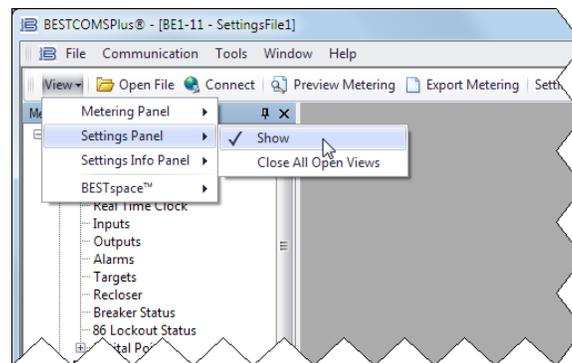

Figure 8. View Drop-Down Button
Click the View drop-down button to switch between the Settings Explorer and Metering Explorer or split the view between both. The Settings Info Panel displays settings ranges. A workspace can be opened, saved, or set as default. See Figure 8.
- Step 4: Click on the View drop-down button and de-select Show Metering Panel and Show Setting Information. See Figure 8. This maximizes the settings workspace.